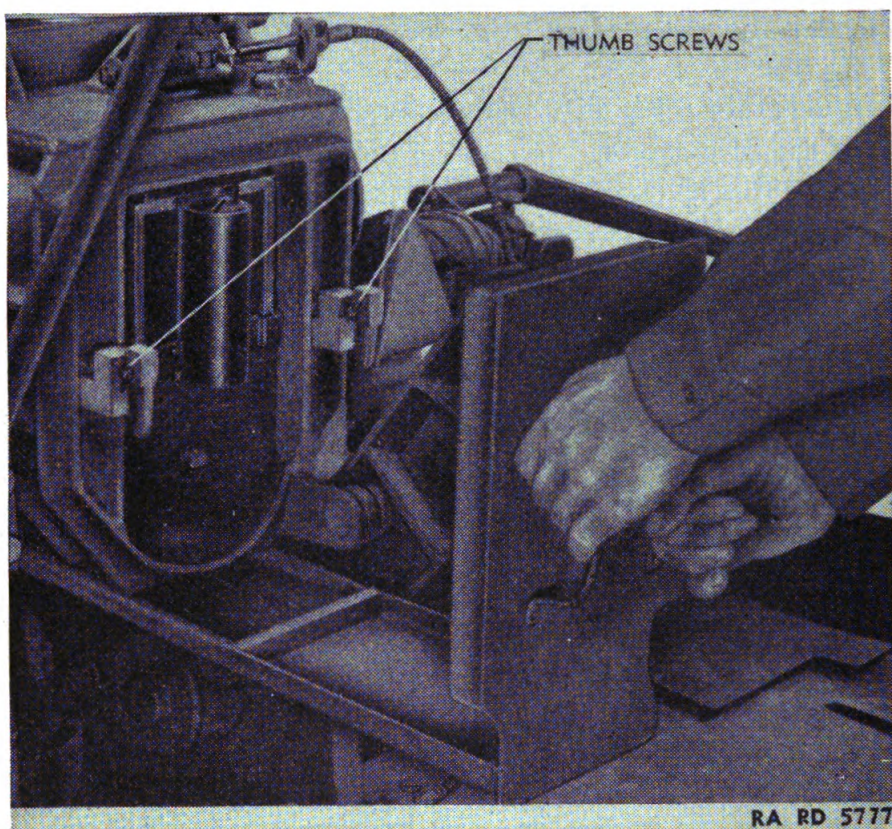

FIGURE 40.—Removing cradle shield slide from M3A1 carriage.
*g. Removing cradle shields from M3A1 carriages.*—(1) Turn the thumbscrews of the cradle shield slide to a vertical position and withdraw the slide (fig. 40).